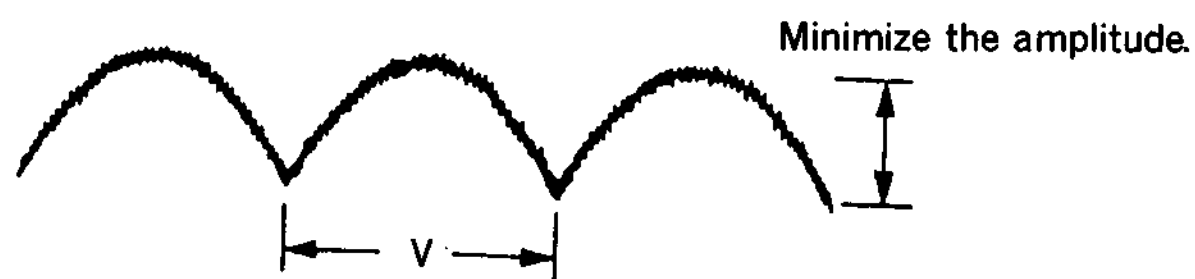

Fig.8-26.
- 3) Turn V COM DC VR and check that the flicker waveform as shown in the fig.8-26 is output.